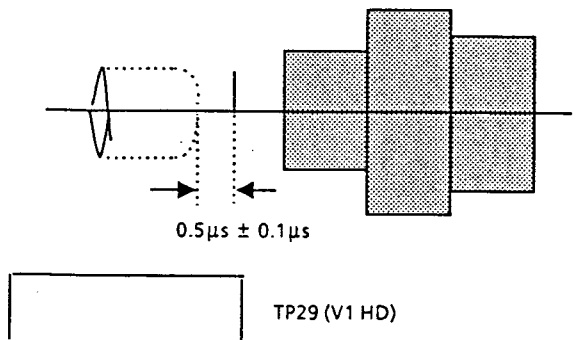

Fig. 4-5
- Adjust VR8 so that the burst blanking (masking) width becomes $0.5\mu\text{s} \pm 0.1\mu\text{s}$. (Fig. 4-5)